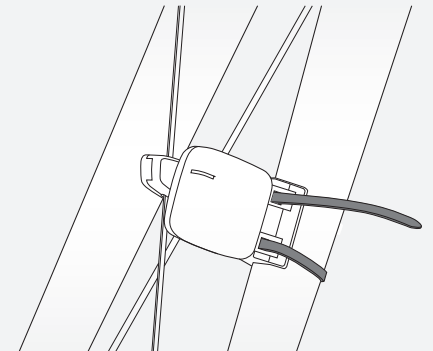

Figure 33. Zip-tie.
2. When you have achieved the correct alignment, pass a zip-tie through the sensor and around the fork blade or chainstay (Figure 33).